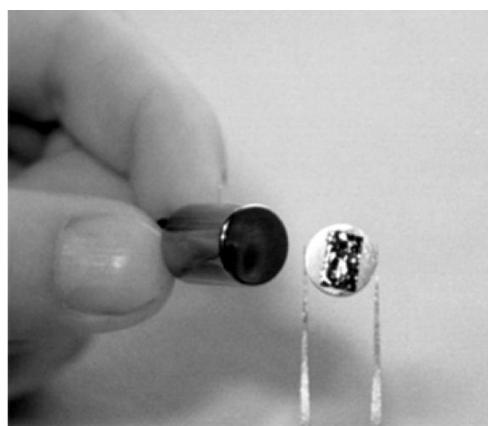

Fig. 7: Place the sample in the middle of the sample holder.
- Grab the sample with the tweezers (as shown in Fig. 7) and place it on the magnet of the sample holder.